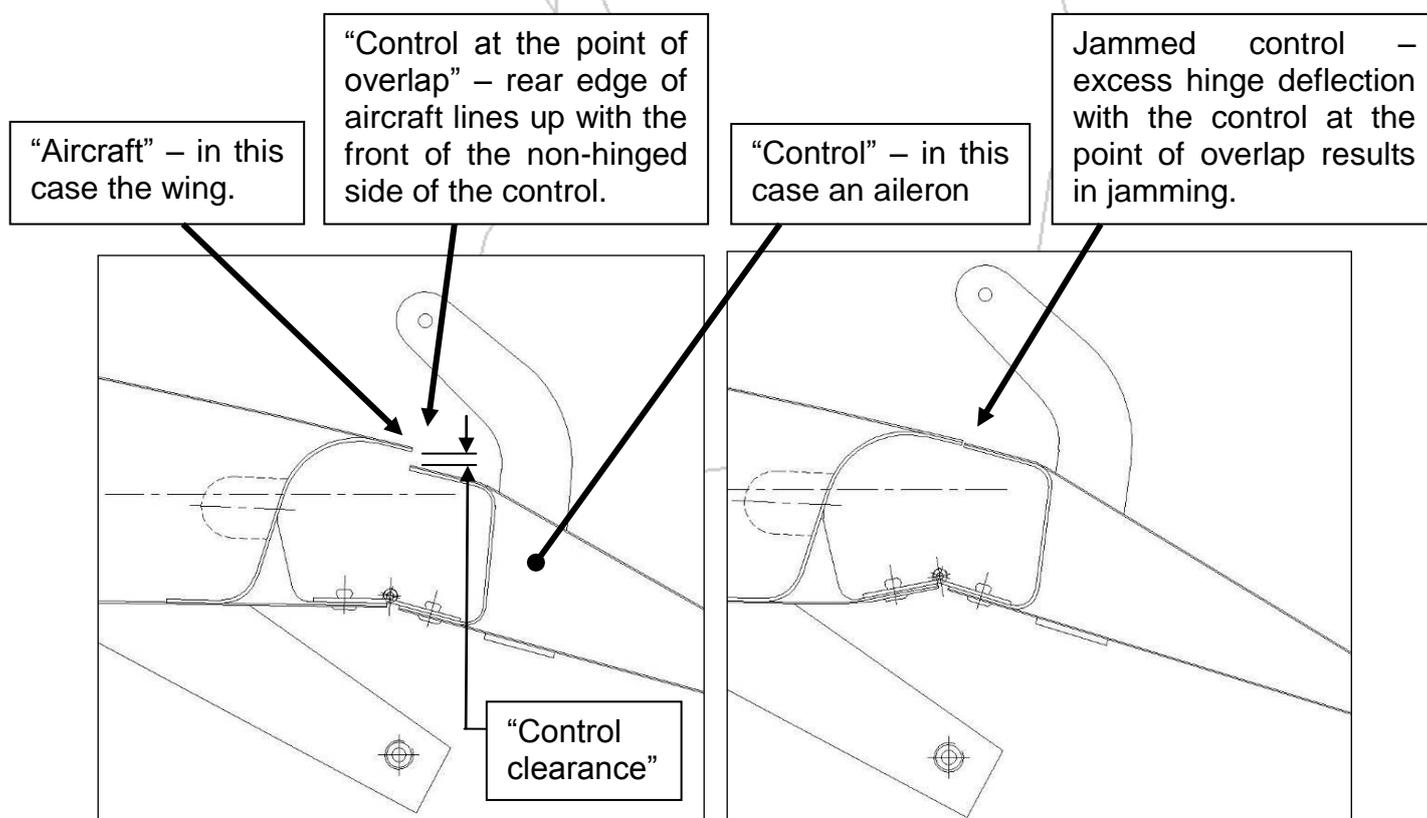

Figure 1 – Normal and Jammed Control Illustration
- In early 2008 this bulletin was first released to address several cases where the control surfaces of Jabiru Aircraft have rubbed against fixed parts of the airframe during flight. In some cases this lead to the control jamming. Figure 1 illustrates a typical control in both the normal (shown at left) and jammed (shown at right) positions.
- In Figure 1 several terms used throughout this bulletin are defined. This definition is provided to clarify the statements given in the remainder of this bulletin.
- **Aircraft** – This refers to the fixed part of the aircraft immediately in front of the controls. In particular it refers to the point indicated in Figure 1, where the control will hit the aircraft if a jam occurs.
- This inspection is to check if the controls are configured in such a way that there is a point of overlap as shown in Figure 1. At noted above the point of overlap is the critical point at which severe control jamming becomes possible.